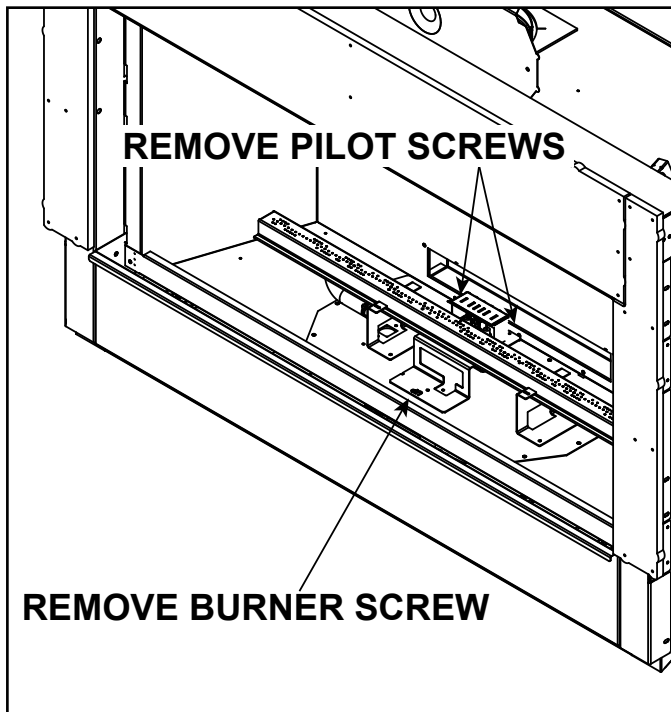

Figure 9.2 Burner Removal
2. Remove the two screws that secure the pilot shield to the burner bracket and remove the two screws that secure the pilot assembly to the burner bracket. Remove the one screw that secures the burner bracket to the valve plate. See Figure 9.2. Gently push the pilot assembly backwards to allow for the burner to be removed.
3. Remove the screw that secures the burner bracket to the valve plate. See Figure 9.2.